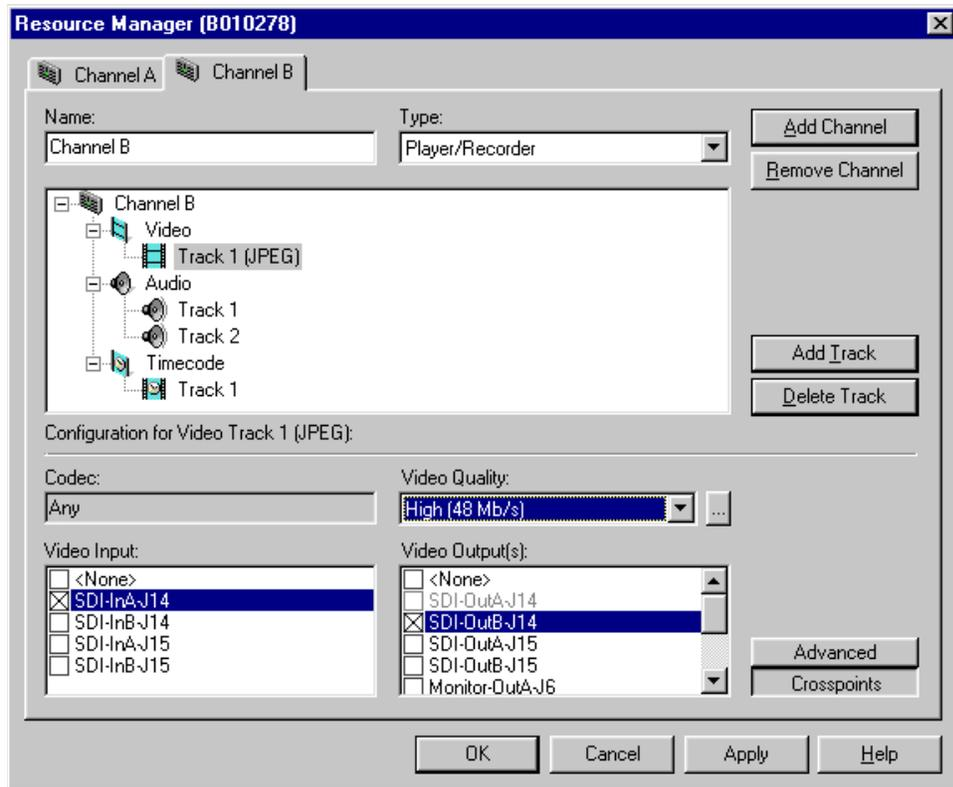
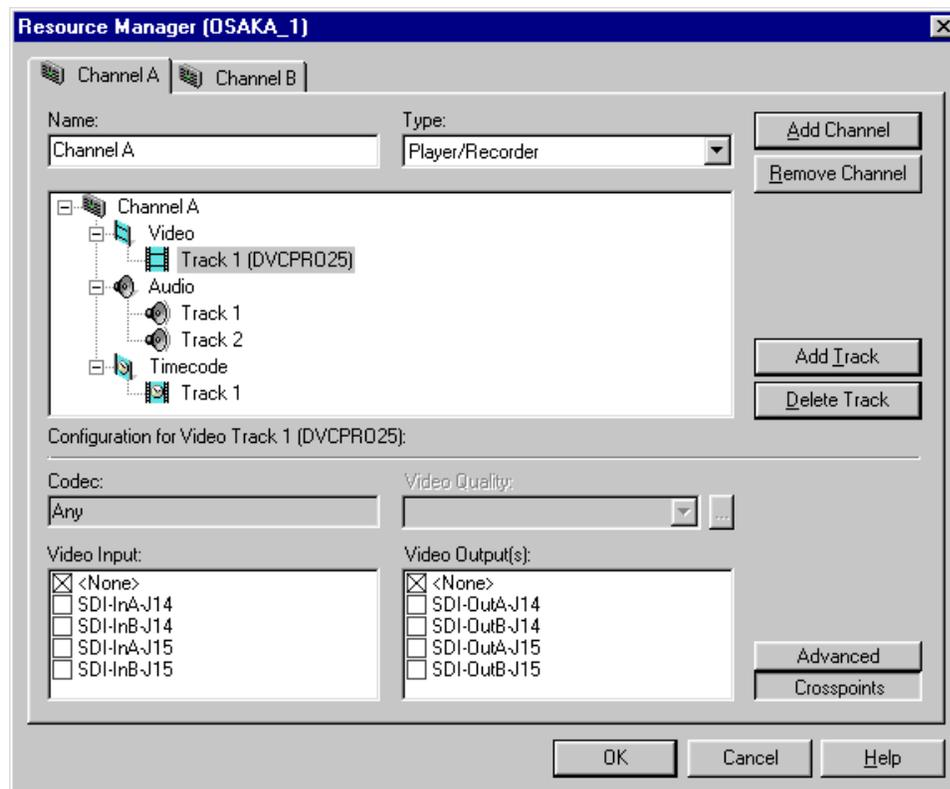

Figure 150. JPEG video track settings
Figure 151. DVCPRO video track settings
6. Click the **Crosspoints** button and then select a video input from the Video Input check boxes (see Figure 150 for JPEG, or Figure 151 for DVCPRO). The names of video inputs are determined by the system configuration created with the Configuration Manager application (see Chapter 2, “Using the Profile Configuration Manager”). You can choose only one video input at a time per track.